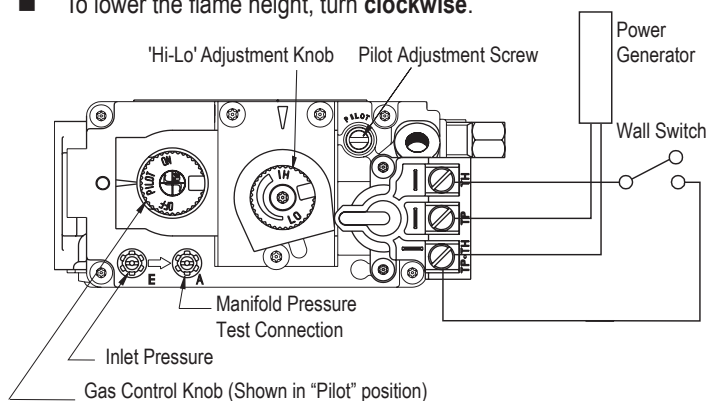

Figure 28. 'Hi-Lo' Adjustment on the SIT Nova 820 gas valve,
The H*38C* is equipped with an adjustable burner, allowing you to raise or lower the flames. To adjust the flames, locate the black knob marked 'Hi-Lo', in the centre of the gas control valve (See **Figure 28**).
1. Locate Pilot Adjustment Screw. (See **figure 28 or 29**.)
Pilot won't ignite	Disconnect remote wires and try to light pilot. If pilot now works, remote connections are faulty. Check wiring diagram figure 28 .
Main burner will not light	1. Check wiring (see figure 28). 2. Check wall switch for proper connection.